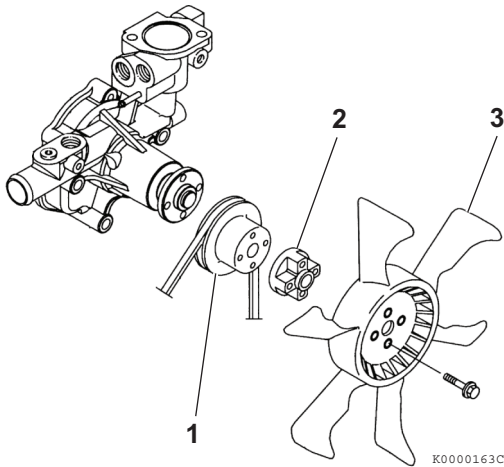

Figure 9-10
7. Install the cooling water pump V-pulley (**Figure 9-10, (1)**), spacer (**Figure 9-10, (2)**), cooling water fan (**Figure 9-10, (3)**), and fan guard (if equipped).